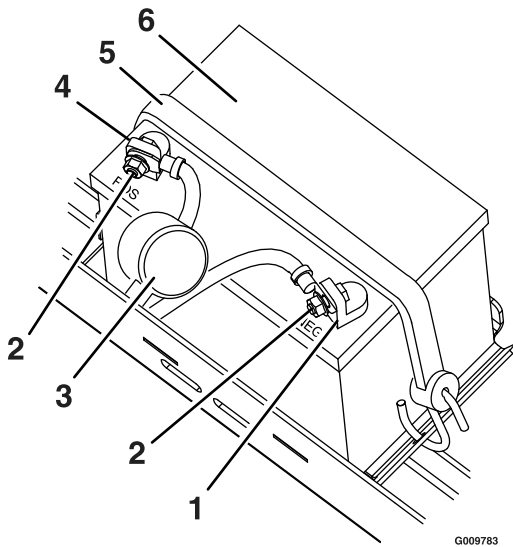

Figure 28
4. Disconnect the negative (black) ground cable from the battery post (Figure 28). Retain all fasteners.
6. Remove the battery strap (Figure 28) and lift the battery from the battery tray.
- Position the battery in the tray with the terminal posts toward the operating position (Figure 28).
- Secure the battery with the strap (Figure 28).